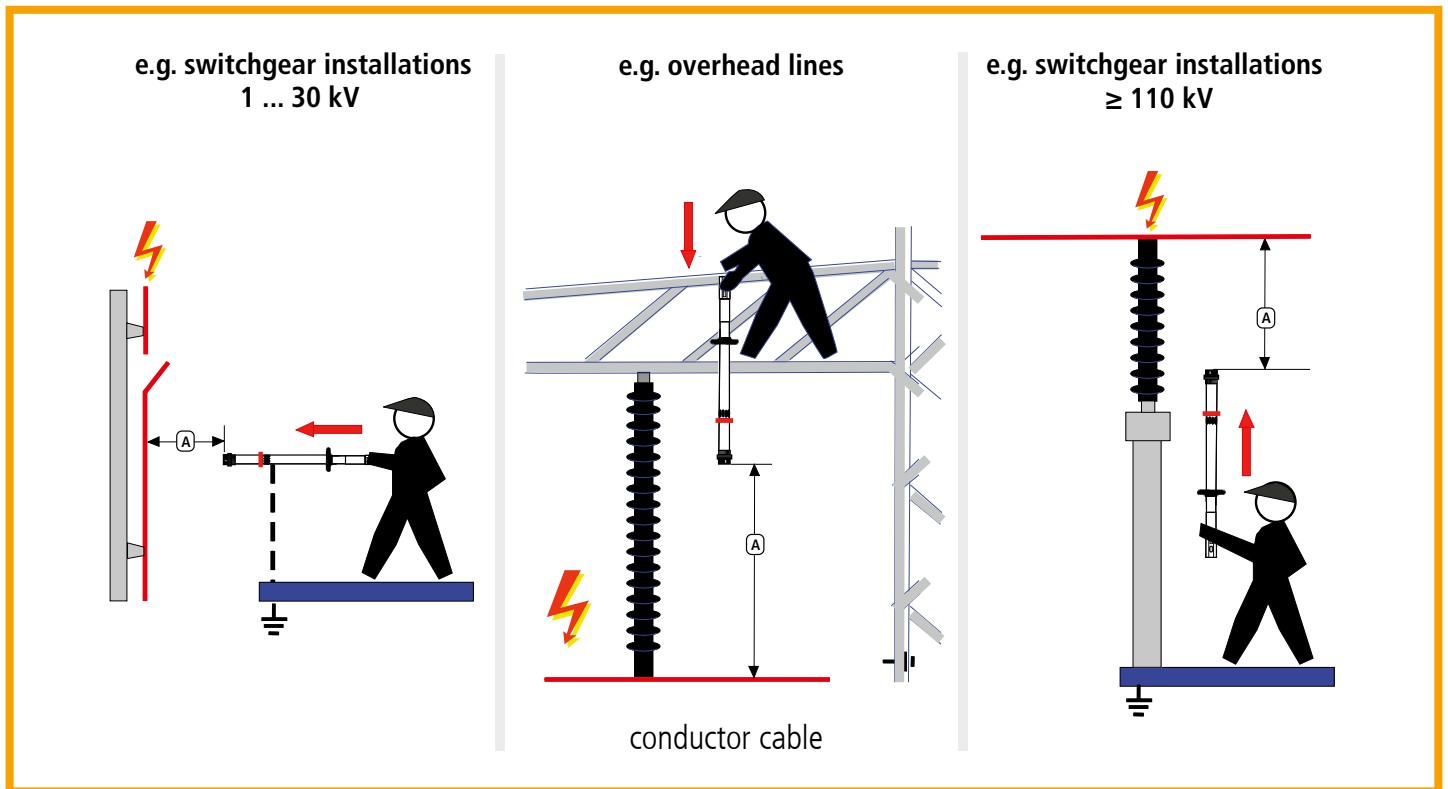

Fig. 6 Application examples according to Table 2
- 1.4** When using the voltage detector, take it by the handle only and apply it from a safe position to ensure that the minimum distance from energised parts of the installation is maintained (Fig. 6, page 11).
- 4.8** The position of use can be chosen as required (see Fig. 6, page 11).